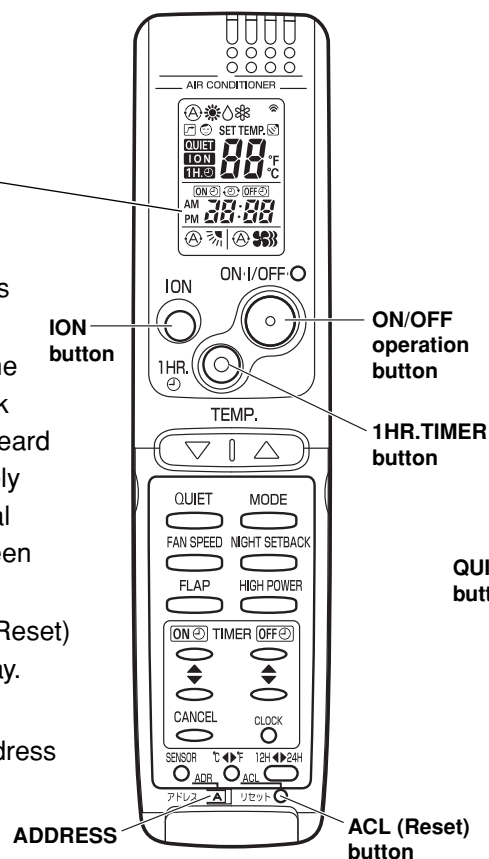

Fig. 64a
(Fig. 64a or 64b)
- (5) "oP-7" has now been selected for address setting.
- (6) Press the ON/OFF operation button on the remote controller. (Fig. 64a or 64b) Check that the "beep" signal-received sound is heard from the second indoor unit (approximately 5 times). The sound you hear is the signal that the remote controller address has been changed.
- (7) Finally press the remote controller ACL (Reset) button to cancel the blinking "oP-7" display.